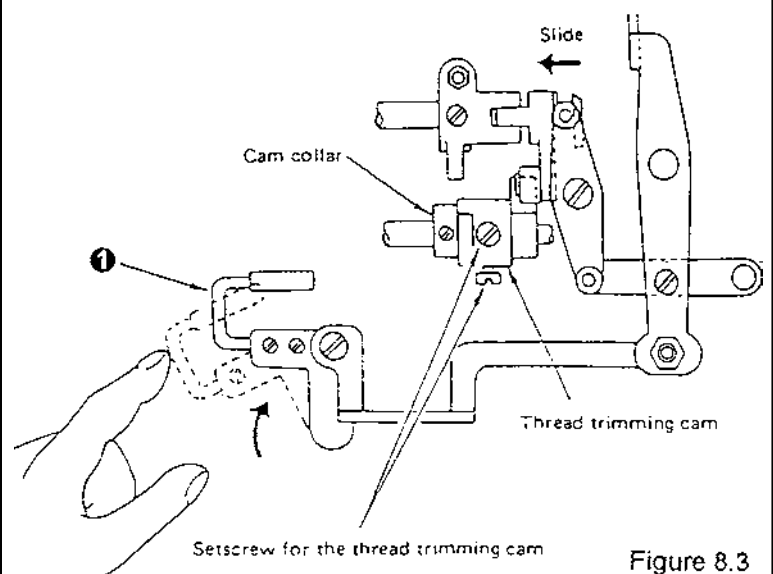

Figure 8.3
- c) To set the HIGH position rotate the hand wheel anti-clockwise until the needle bar is in the low position. Engage the trimmer by pushing the thread take-up picker (1) (figure 8.3) towards the hook. Once the trimmer is engaged continue rotating the hand wheel anti-clockwise until the trimmer completely disengages.